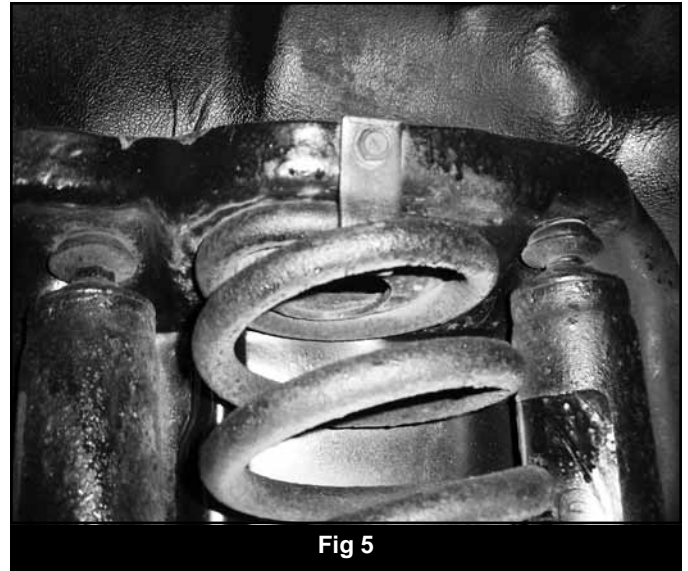

Fig 5
11. Remove J-clips, retain hardware. Lower the axle and pull the top of the coil from the upper coil bucket. (Fig 5)